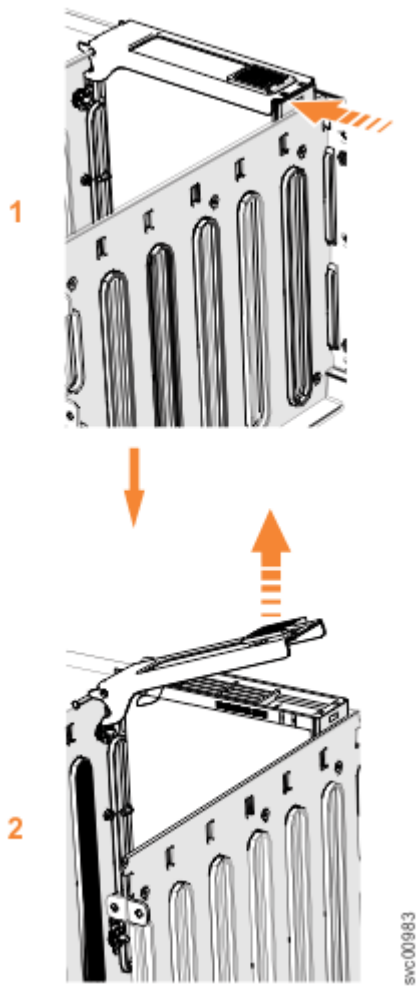

Figure 113. Remove the drive assembly
5. Slide the release latch forward (1), as shown in Figure 113 on page 161.
6. Lift the handle (2) to unlock the drive carrier from the partition, as shown in Figure 113 on page 161. Ensure the toe on the bottom of the latch is fully disengaged.